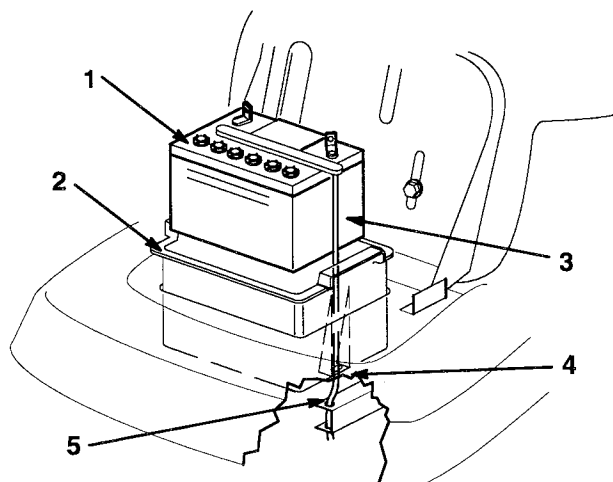

Figure 20
5. Remove the battery box, battery, and long vent tube from the chassis (Fig. 20).
1. Put the battery into the battery box and slide the vent tube into the channel and through the slot in the bottom of the box (Fig. 20).
IMPORTANT: Look down into the cut out area where the battery box fits into the chassis. Notice the holes at the end of the right frame member (Fig. 20). Always install the long battery vent tube through the holes to prevent battery acid from corroding the tractor and mower.
2. Install the battery box and battery into the chassis (Fig. 20). Make sure to slide the end of the vent tube through the holes in the frame (Fig. 20).